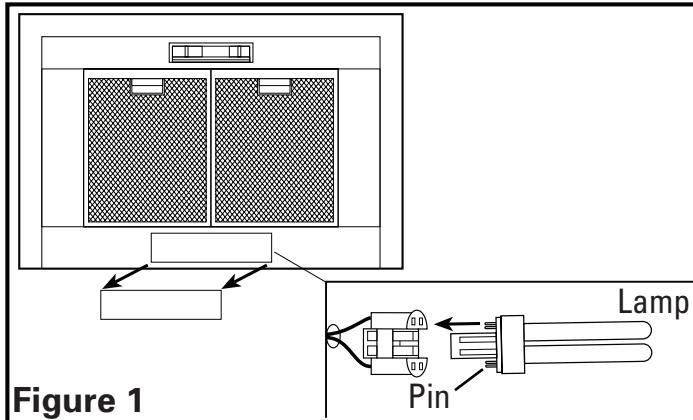

Figure 1
3. Remove the lens cover on the underside of the range hood and install the included 26 watt fluorescent lamp (**Figure 1**).